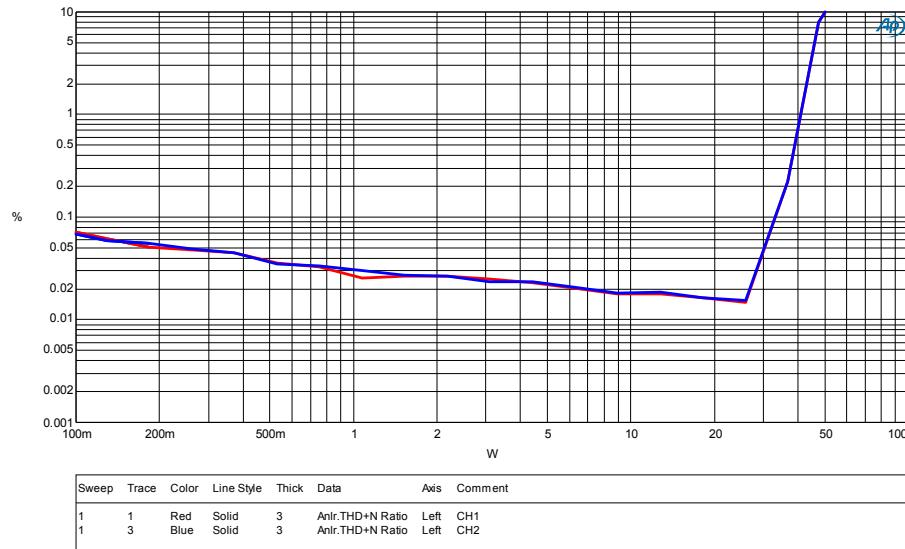
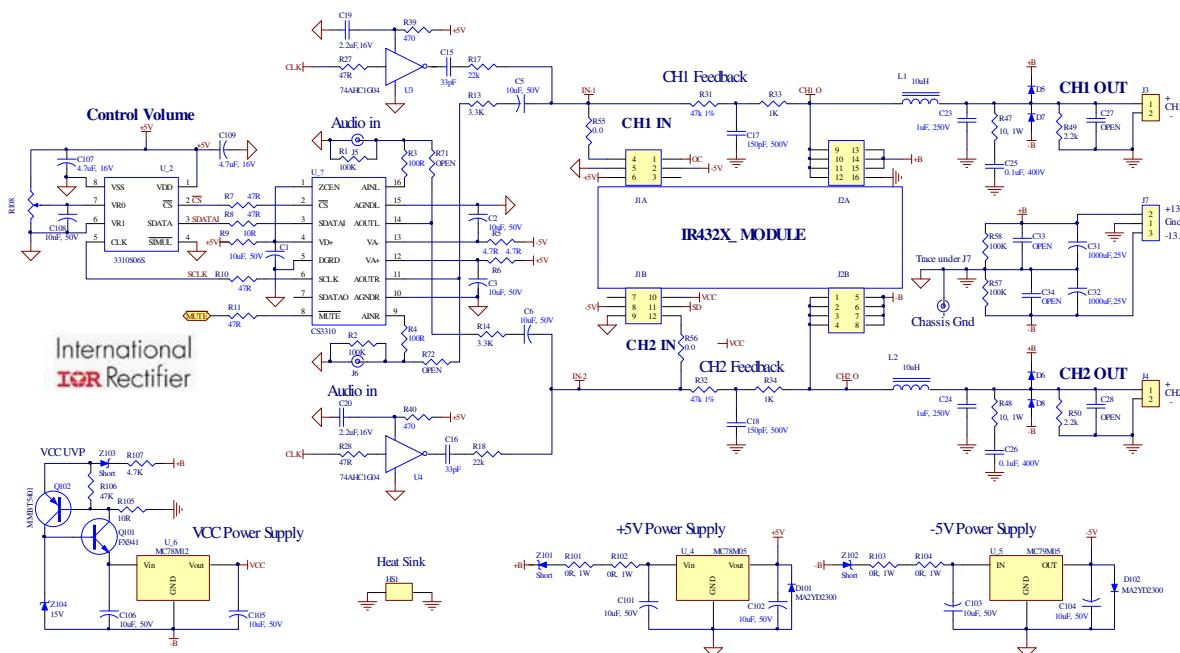

Figure 3
Figure12
15. For all subsequent tests as shown on the Audio Precision graphs below (Figure 3- Figure12), the measurements are taken across J3 and J4 with an AES-17 Filter. Observe that a  $1 V_{RMS}$  input generates an output around THD+N=1% power level.